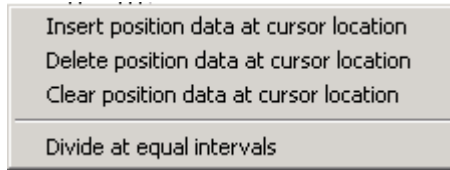

Fig. 5.6 Pop-up Menu
- * The equal division function can also be implemented from the pop-up menu (Fig. 5.6) displayed by right-clicking the position data input area.